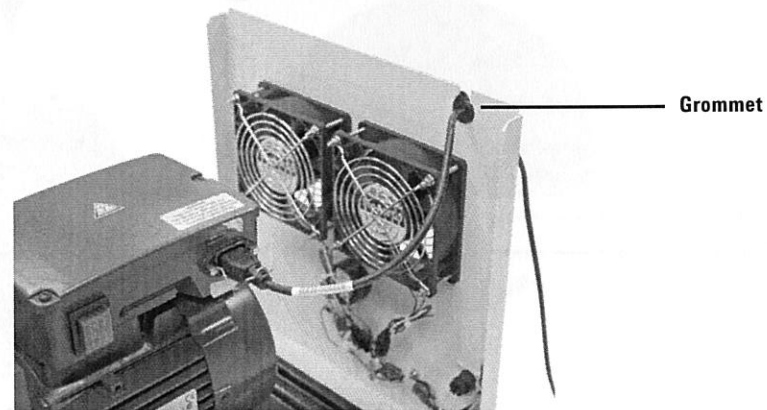

Figure 7 Installed pump power cord (DS 302 shown)
- Plug the pump power cord into the pump, then slide the grommet with the power cord back into the groove on the back of the frame (Figure 7).